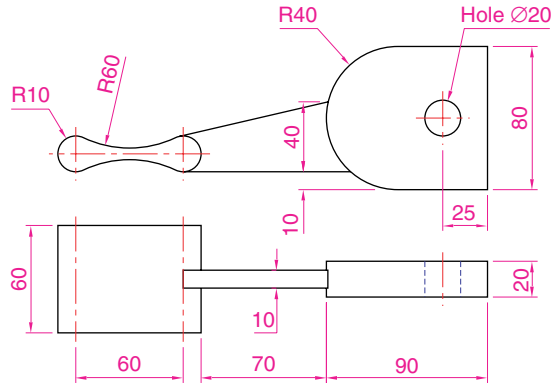

Fig. 19.22 Second example of 3D models
Second example (Fig. 19.22)
5. Render (Fig. 19.22).